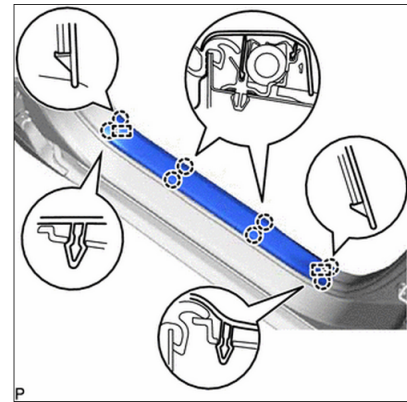

Figure 5
7. Disengage the 8 claws and 2 guides to remove the front door scuff plate, LH (Figure 5).